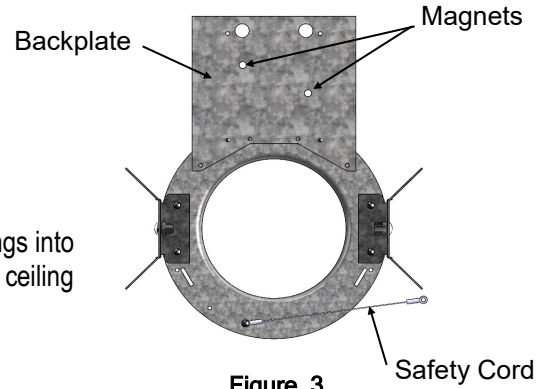

Figure 3
5. Pass driver thru opening and place on back plate of frame in kit. Note: There are magnets to secure driver assembly. (see **Figure 3**)
2. Unscrew Philips head screw from top of Led Assembly and attached safety cord. Screw back onto Led Assembly. (see **Figures 3 & 4**)